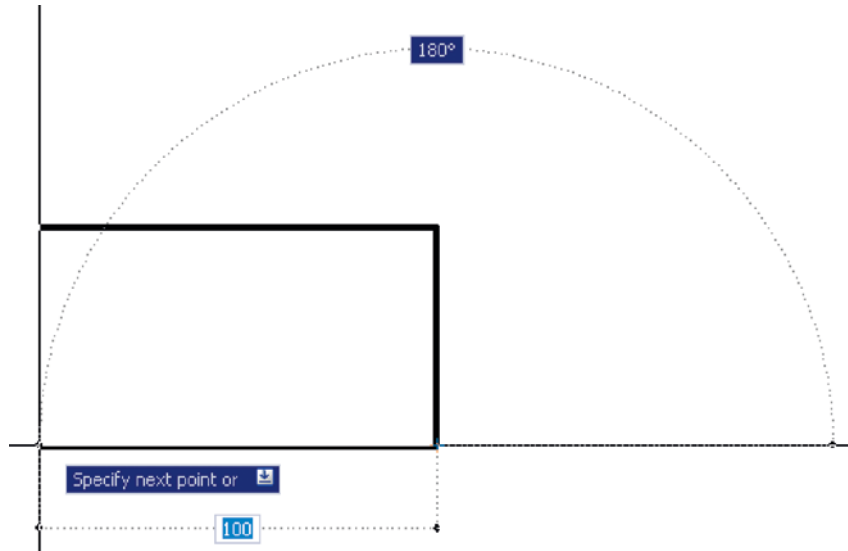

Fig. 3.31 Dynamic Input – first example – Polyline – the horizontal distance
7. *Drag* the cursor to the left until the required horizontal distance is showing and *right-click* (Fig. 3.31).